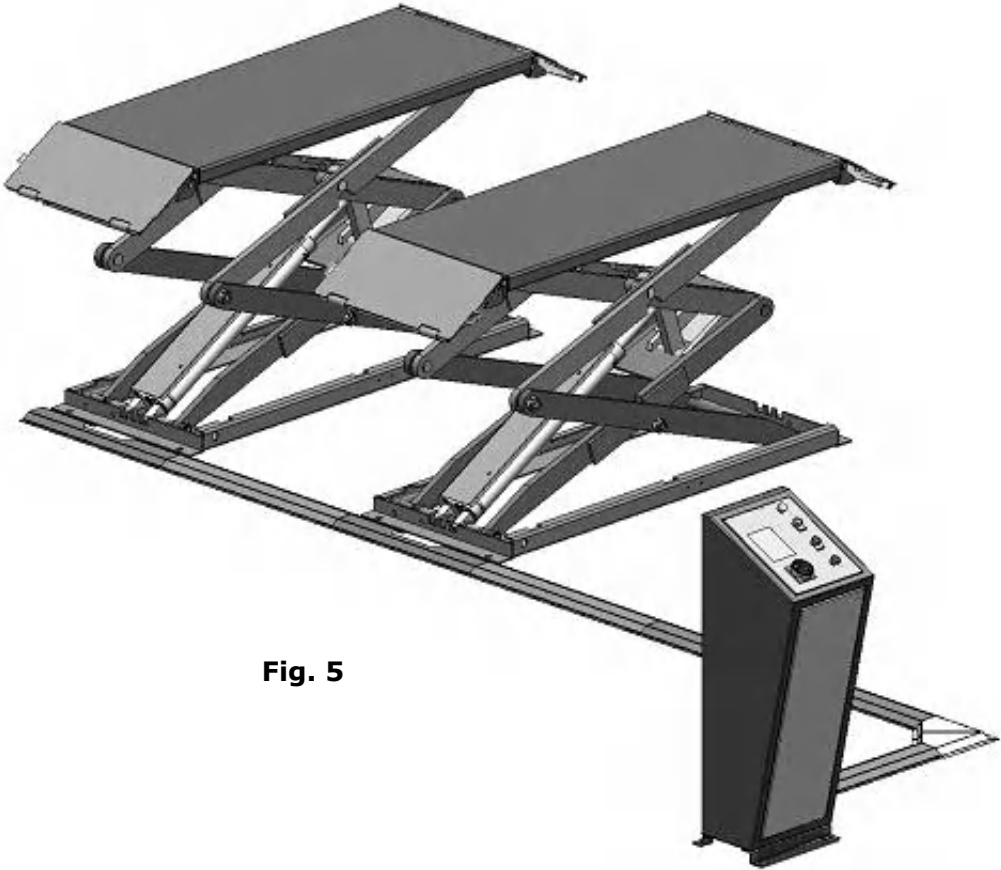

Fig. 5
B. Control cabinet placement diagram 2. see Fig.5.